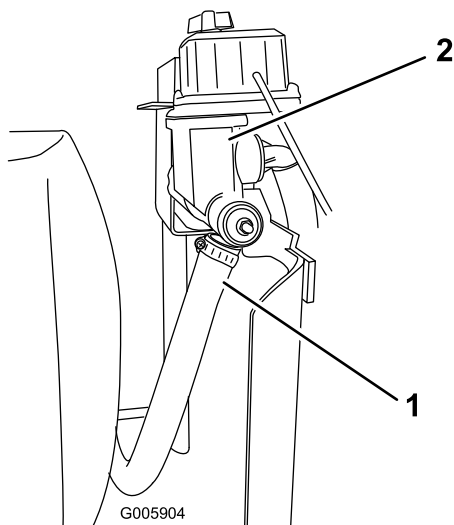

Figure 55
2. Follow this hose until it terminates on the left side of the valve manifold. This hose is connected to the side of the valve manifold facing to the front of the machine (Figure 55). Loosen the hose clamp securing the hose and disconnect it from the barb on the valve manifold. Discard this hose and retain the hose clamp.